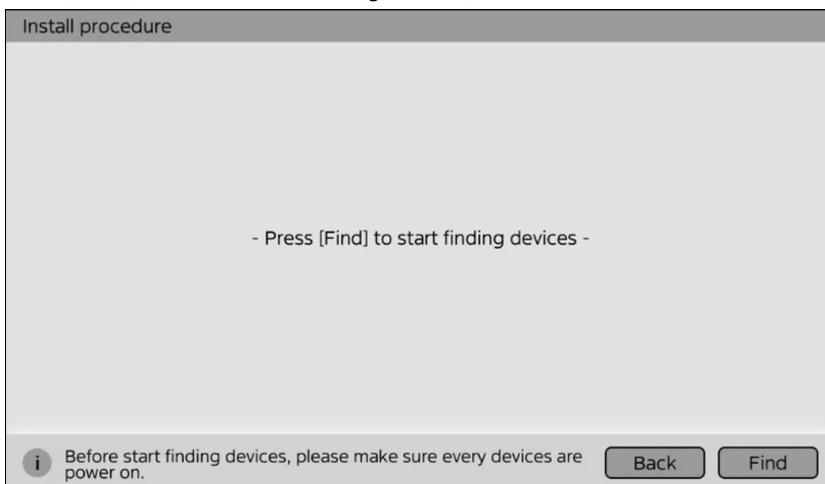

Fig 1.2
2. Press **[Find]** button to start finding devices, make sure all devices are well connected and powered on. (Fig 1.2).